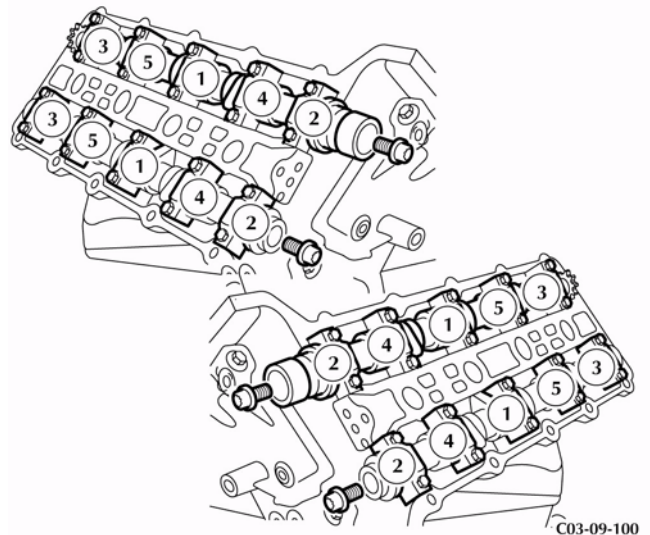

Figure 4
- Install and torque the ten bolts in the sequence specified as shown in Figure 4.